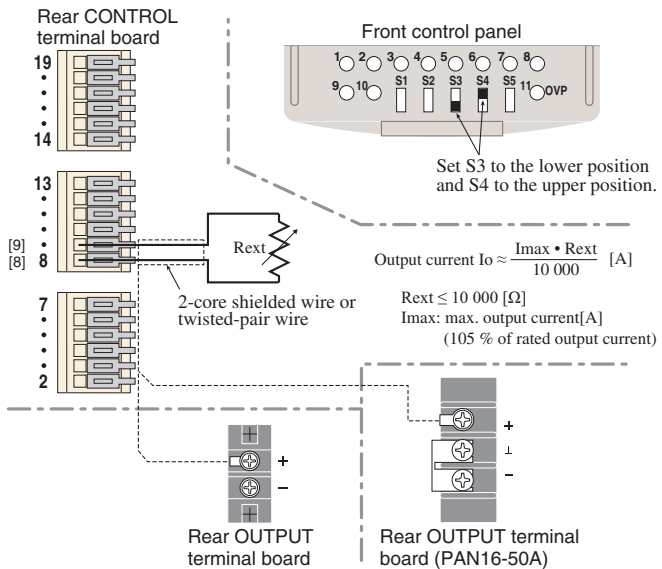

Fig.4-13 Connection and setup for output current control using external resistor
3. Set the control switches S3 and S4 to the position as shown in Fig.4-13.
4. Connect an external resistor across the control terminals [8] and [9] as shown in Fig.4-13.